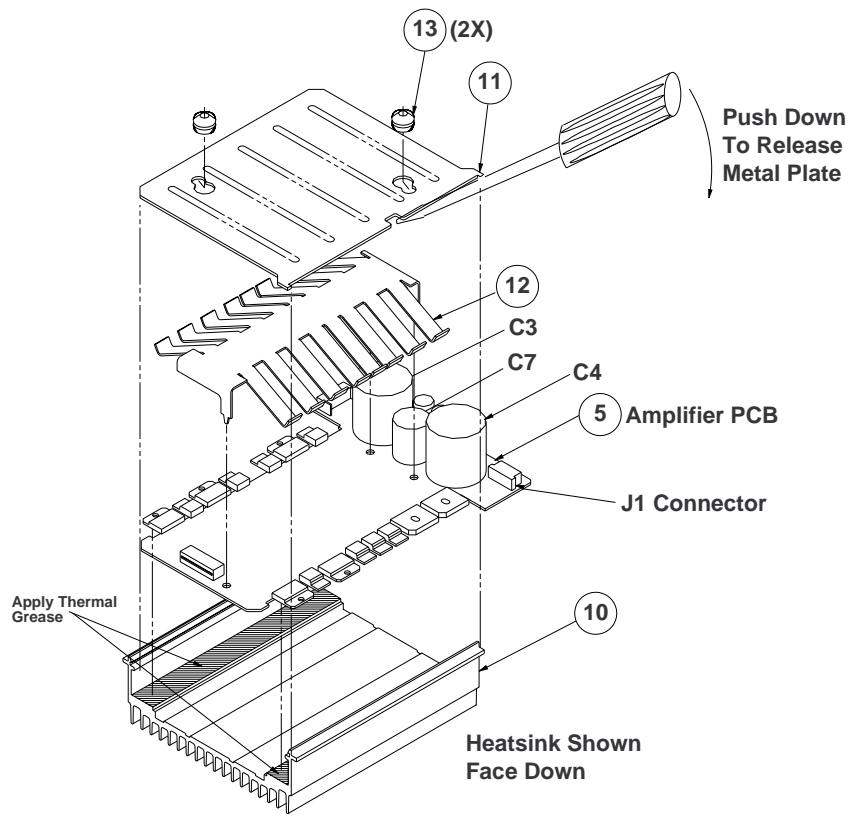

Figure 17. Heatsink/Amplifier PCB Subassembly
5.6 Place the tip of a flat-head screwdriver into the metal plate's (11) small rectangular slot. Quickly pry the heatsink wall back just enough to release the metal plate from the heatsink. Refer to Figure 17.